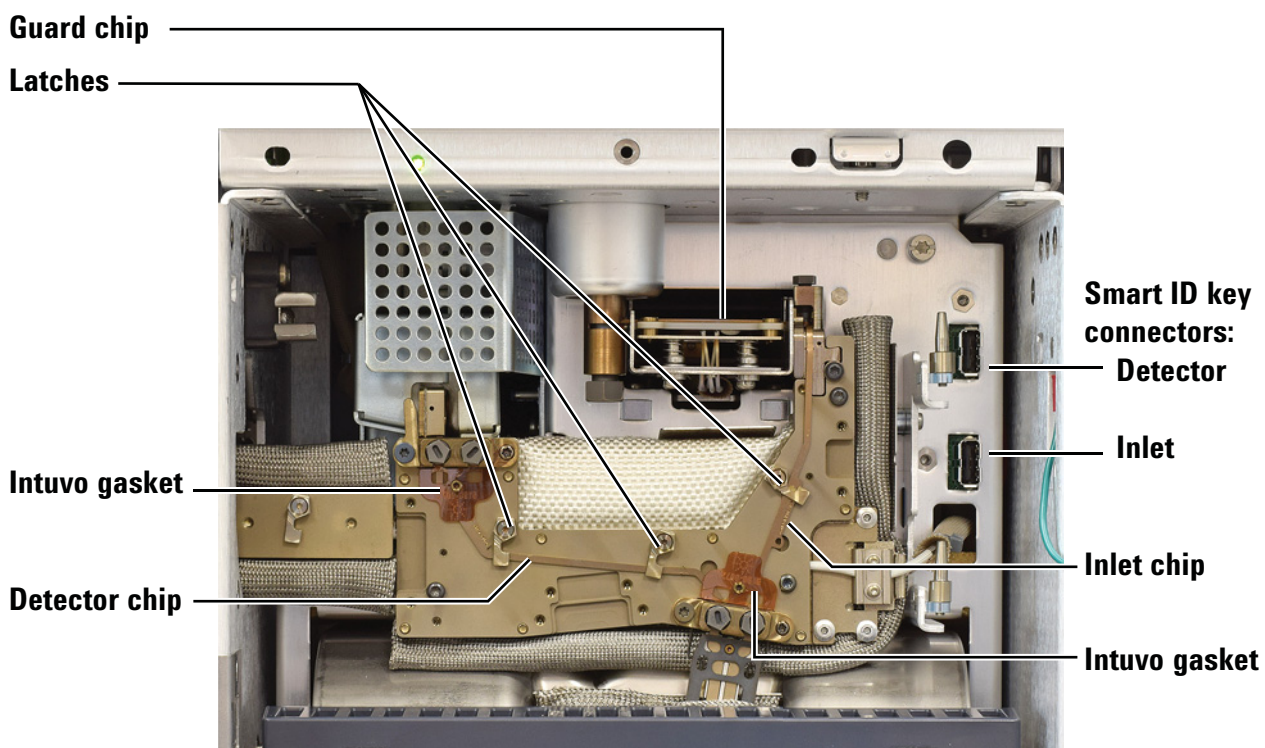

Figure 7 Intuvo bus components
Figure 7 shows the Intuvo major bus components.
- 12** Use a Torx driver to open the clips that hold the detector chip to the bus. See Figure 7.